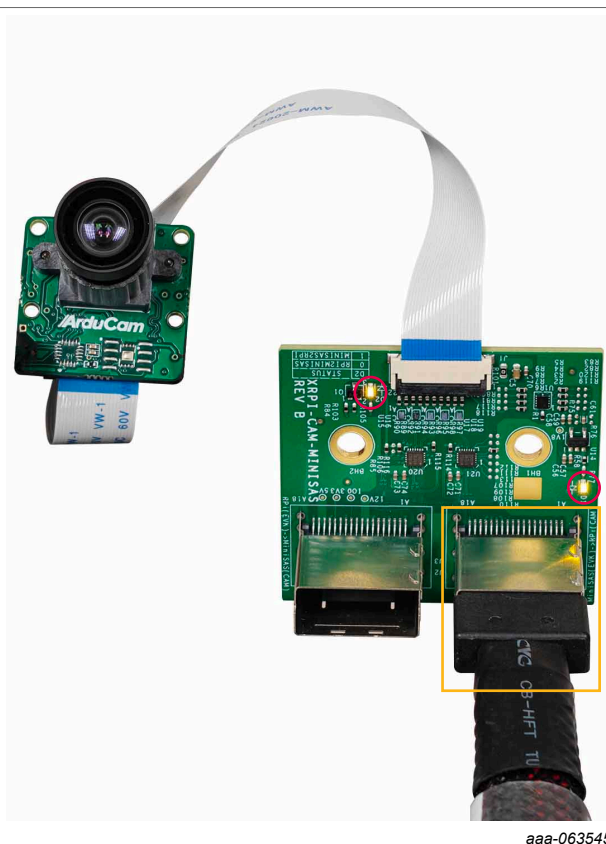

Figure 26. RPI-CAM-MINISAS adaptor board powered on with IMX 477
3. Highlighted MINISAS connector marked [MINISAS(EVK) -> RPI(CAM)] can be used on RPI-CAM-MINISAS adaptor board shown in Figure 26.